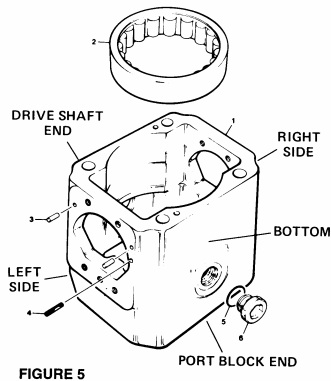

FIGURE 5
**See Figure 5.** Wash and dry all parts. During assembly, lapped and ground surfaces should be kept lubricated with clean oil and protected from nicks or surface damage. Position housing (1) on a clean flat surface with the large open end up.
**PARTS LIST FOR FIGURE 5**